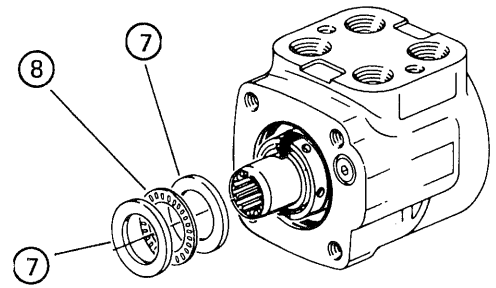

Fig. 133
- (15) Separate two bearing races (7) and thrust needle (8) from spool-sleeve assembly (17) (18). (Fig. 133)